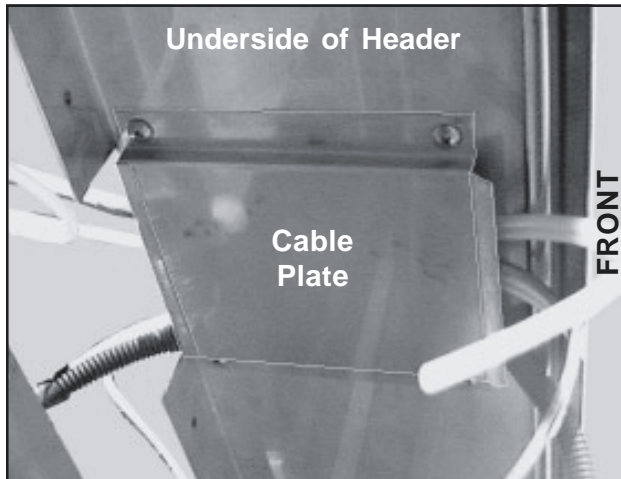

Figure 12. Cable Plate Mounted
3. With a Phillips screwdriver, mount the cable plate to the underside of the header (Figure 12) with four screws. Make sure that the lip faces the front.